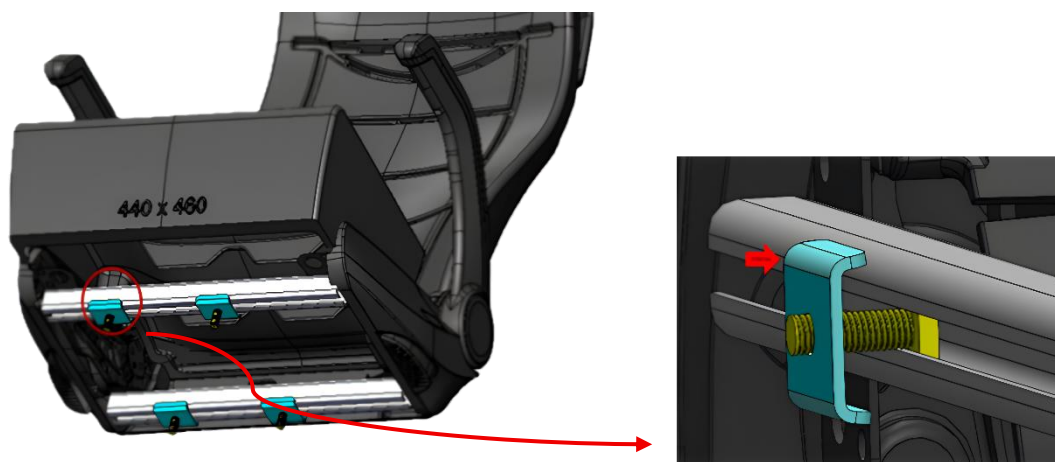

Figure 2
Step 2 Insert the U-bracket onto the M10 T-bolt and slide the M10 T-bolt along the seat track until the U-bracket is positioned at the required location, as shown in **Figure 2**.